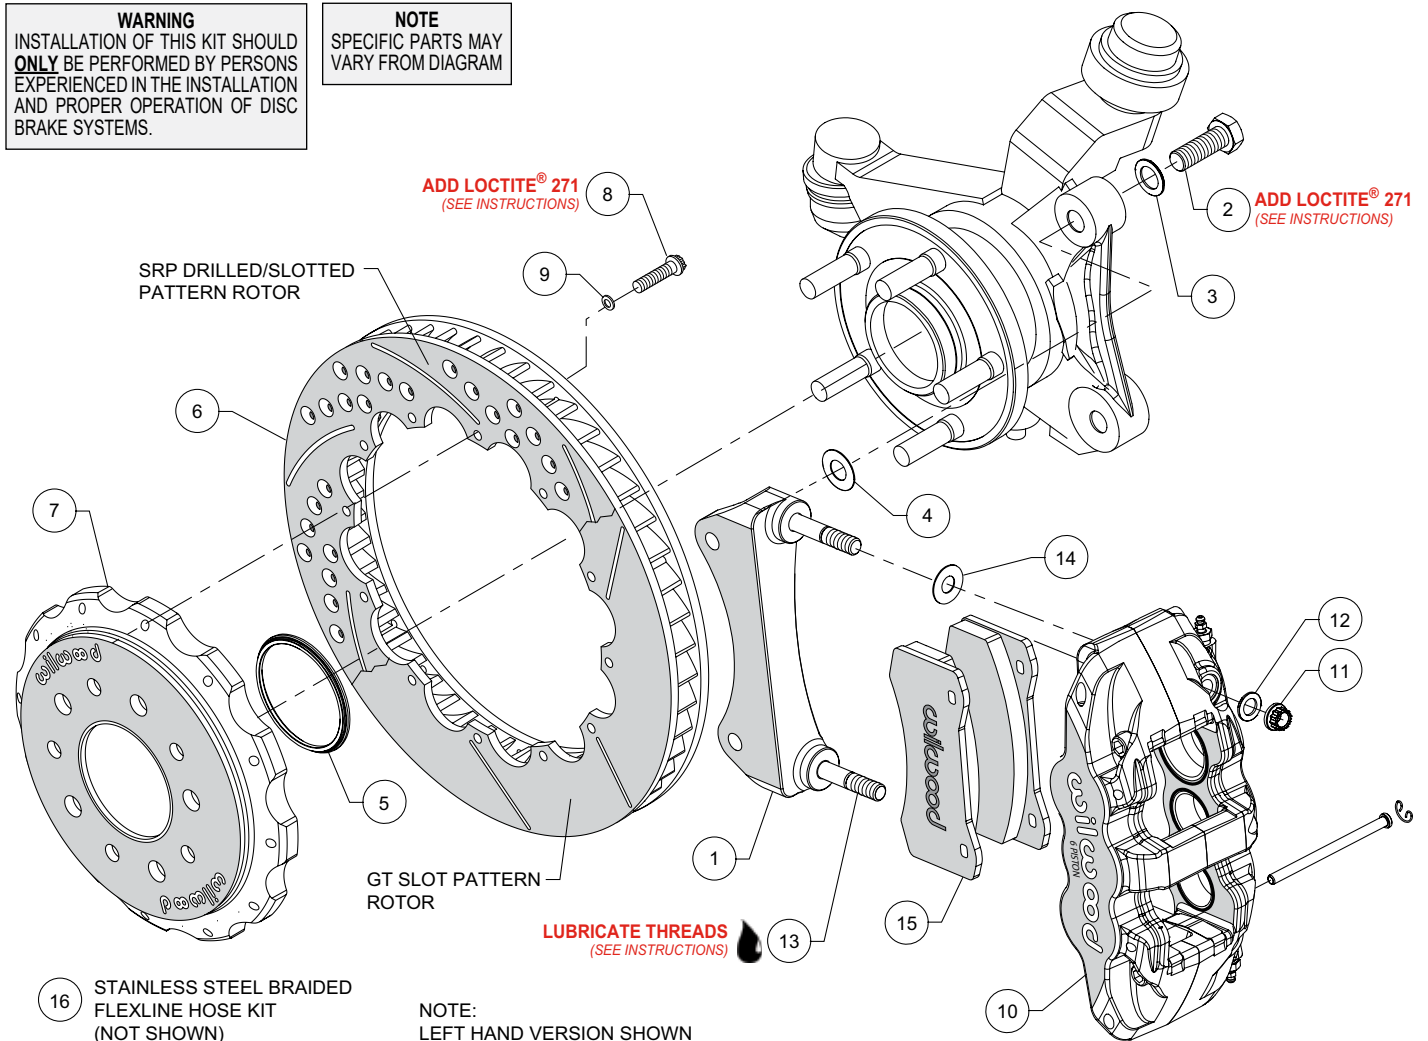
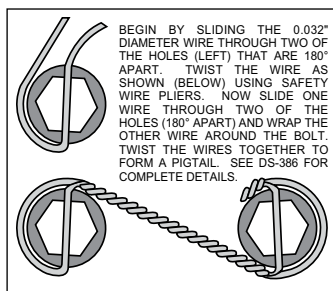

Figure 1. Typical Installation Configuration
Figure 3. Safety Wire Diagram
NOTE: Numbers in parenthesis refer to the parts list, and Figure 1 on the preceding pages.
- The caliper mount bracket (1) should initially be installed with clean, dry threads on the mounting bolts. Orient the bracket as shown in Figure 1 and Photo 1 and install using mount bolts (2) and washers (3). Initially place one .029" thick shim (4) on each bolt between the bracket and upright, Figure 1. Temporarily tighten the mounting bolts. **NOTE:** The bracket must fit squarely against the mount bosses on the upright. Inspect for interference from casting irregularities, machining ridges, burrs, etc. Later, after the caliper alignment has been checked, the mount bolts will be secured using red *Loctite*® 271.
- Orient the rotor (6) and the hat (7) as shown in Figure 1 and Photo 2. Attach rotor to hat using bolts (8) and washers (9). Apply red *Loctite*® 271 to the bolt threads and torque to 155 in-lb using a criss-cross pattern. For an added measure of security, the bolts may be safety wired using standard 0.032 inch diameter stainless steel safety wire as shown in Figure 3. Please refer to Wilwood's data sheet DS-386 (available at www.wilwood.com/Pdf/DataSheets/ds386.pdf) for complete safety wire installation instructions.
- Slide the rotor registration adapter (5) onto the axle register on the axle hub with the smaller O.D. facing outward, Figure 1 and Photo 3.
- **NOTE:** This kit contains distinct right and left hand calipers that must be mounted in a specific direction, as described below. Lubricate the caliper mounting studs (13) with lightweight oil. Initially place one .030" thick shim (14) on each stud between the caliper and the bracket, as shown in Figure 1 and Photo 6. Mount the caliper (10) onto the bracket (1) using lock nuts (11) and washers (12), Figure 1. Temporarily tighten the lock nuts. Ensure that the caliper is mounted so the largest pistons are at the rotor exit end of the caliper, in relation to the direction of the rotor. View the rotor through the top opening of the caliper. The rotor should be centered in the caliper, Photo 7. If not, adjust by adding or subtracting shims (4) between the bracket and the upright. Always use the same amount of shims on each of the two mounting bolts. Once the caliper alignment is correct, remove the bracket mounting bolts (2) one at a time, apply red *Loctite*® 271 to the threads, and torque to 105 ft-lbs.
sliding out the pins. Insert the brake pads (15) into the caliper from the bottom, Figure 1 and Photo 8. With the friction material facing the rotor, secure the brake pads in place with the pad retaining pins and clips, Figure 1 and Photo 9. Reinstall the caliper onto the caliper mounting bracket and temporarily tighten the lock nuts. Check that the top of the brake pad is flush with the outside diameter of the rotor, Photo 10. If not, adjust by adding or subtracting shims (14) between the caliper and the bracket. After the caliper pad height is set, torque the caliper lock nuts (11) to 47 ft-lb.